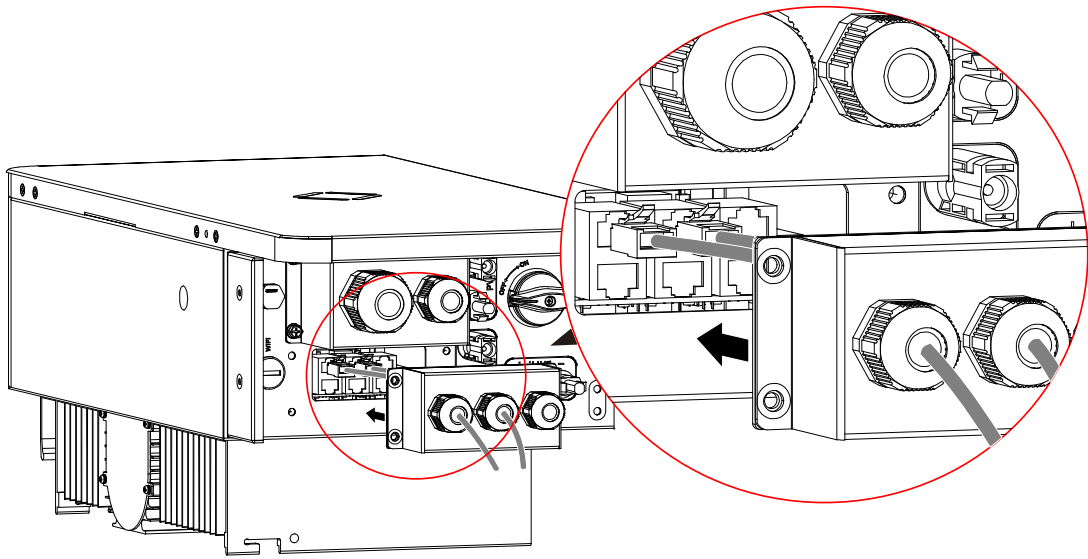

Figure3-44 Insert the communication port
- Step 1 Screw the waterproof cover on the COM. port, insert the RJ45 port to the COM. Port (as shown in Figure3-44) and screw it.